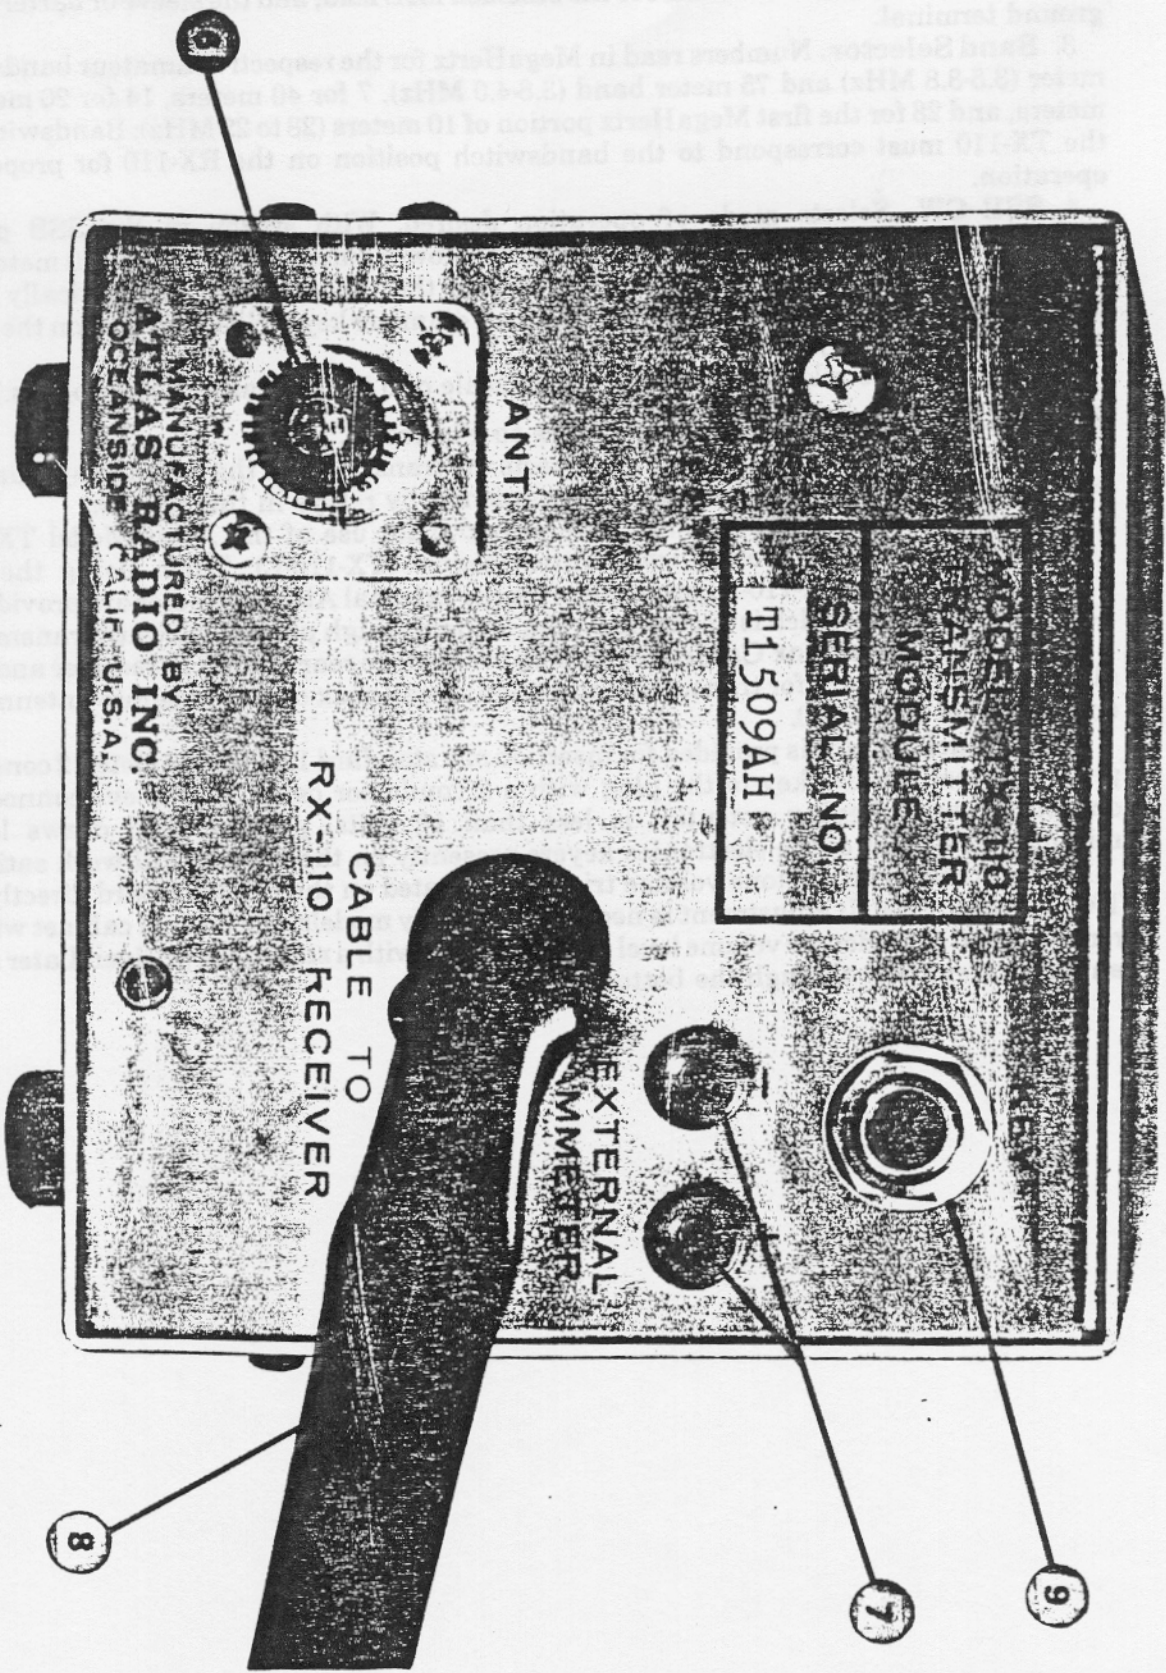

FIG. 5
B. REAR PANEL CONTROLS (Refer to Figure 5).